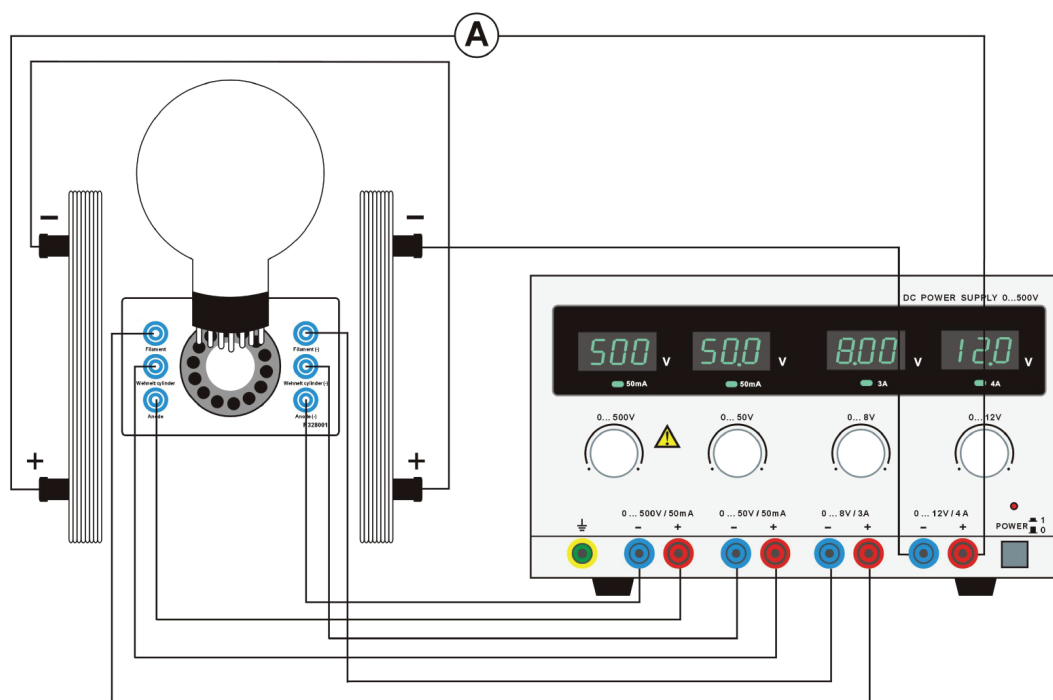

Fig. 1 Electrical connections from the fine beam tube and the pair of Helmholtz coils to the DC power supply unit
- Set up the tube as in fig. 1.